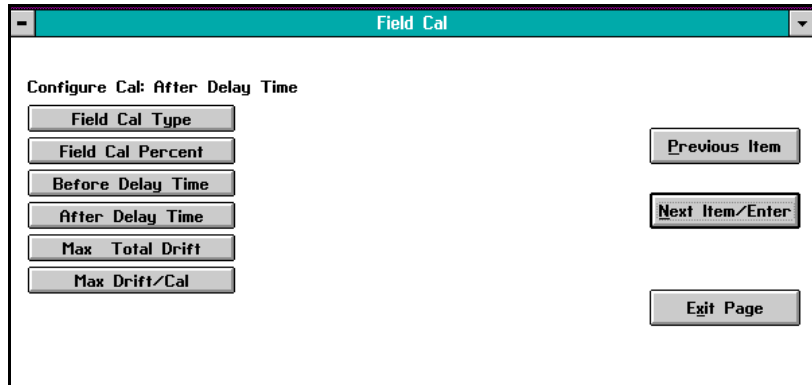

Figure 17: *Configure Cal* Window
4. In the *Configure Cal* window (shown in *Figure 17 on page 33*), click on the *Field Cal Type* button.
The *Configure Cal* option enables you to change the field calibration type and various calibration parameters. Clicking on the *Configure Cal* button opens a window like that shown in *Figure 17* below.